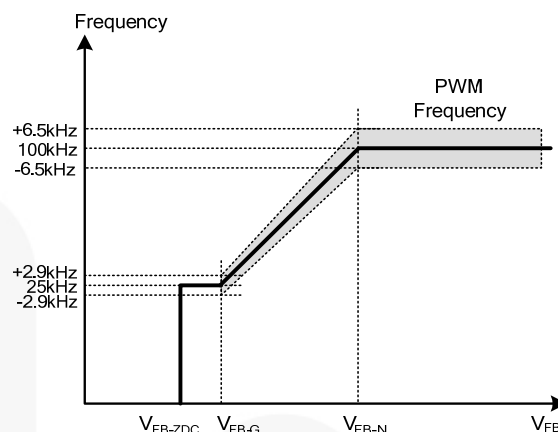
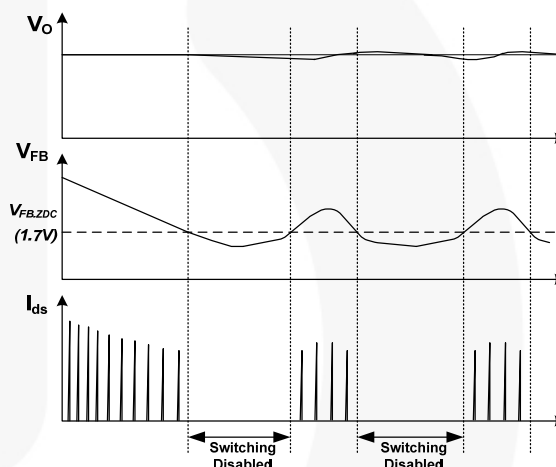

Figure 23. PWM Frequency
Figure 24. Burst-Mode Operation
The FAN6862H(HR) uses feedback voltage (V_{FB}) as an indicator of the output load and modulates the PWM frequency, as shown in Figure 23, such that the switching frequency decreases as load decreases. In heavy-load conditions, the switching frequency is 65kHz . Once V_{FB} decreases below V_{FB-N} (2.6V), the PWM frequency starts to linearly decrease from 100kHz to 25kHz to reduce the switching losses. As V_{FB} decreases below V_{FB-G} (2.1V), the switching frequency is fixed at 25kHz and FAN6862H(HR) enters “deep” Green Mode, where the operating current decreases to 2.5mA (maximum), further reducing the standby power consumption. As V_{FB} decreases below V_{FB-ZDC} (1.7V), FAN6862H(HR) enters Burst Mode. When V_{FB} drops below V_{FB-ZDC} , FAN6862H(HR) stops switching and the output voltage starts to drop, which causes the feedback voltage to rise. Once V_{FB} rises above V_{FB-ZDC} , switching resumes. Burst Mode alternately enables and disables switching, reducing switching loss in standby mode, as shown in Figure 24.